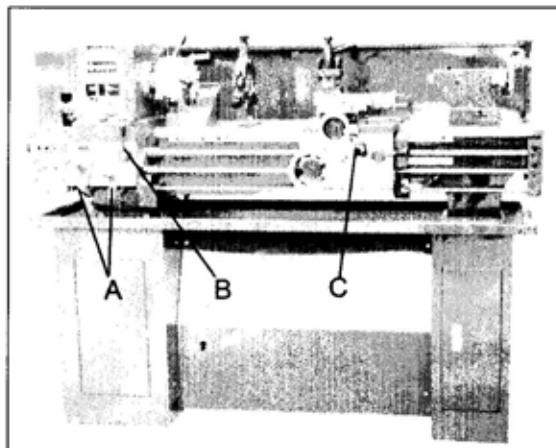

Fig. 21
1. Set feed rate selectors (A, Fig. 21) in proper position for the correct feed rate of the thread pitch to be cut.
2. Move carriage feed/thread selector (B, Fig. 21) lever to the right (lead screw will start to rotate).
3. Engage the half nut lever (C, Fig. 21).